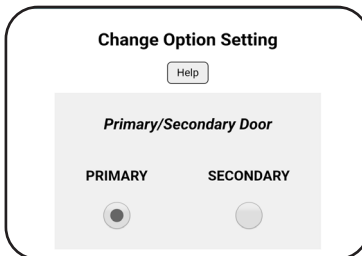

Figure 41
- Primary/Secondary Door = **PRIMARY** (Figure 41)